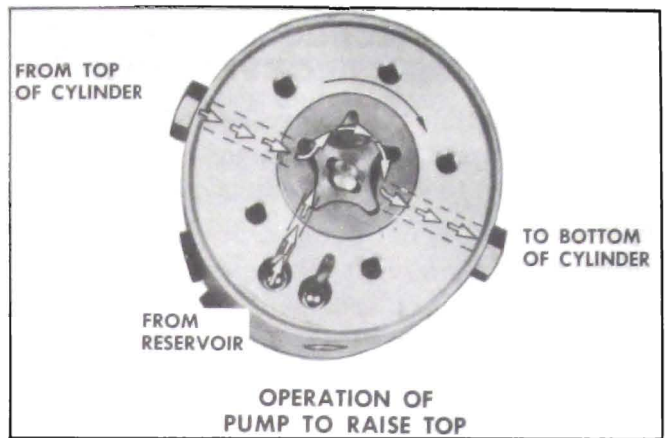

Figure 13-118—Raising Convertible Top
1. *Raising the Top.* When the red motor lead is energized, the motor drive shaft turns the rotors clockwise as indicated by the large arrow in figure 13-118. The action of the pump rotors forces the fluid under pressure to the bottom of each cylinder forcing the piston upward. This action causes the fluid above the piston in each cylinder to be forced into the pump, which re-